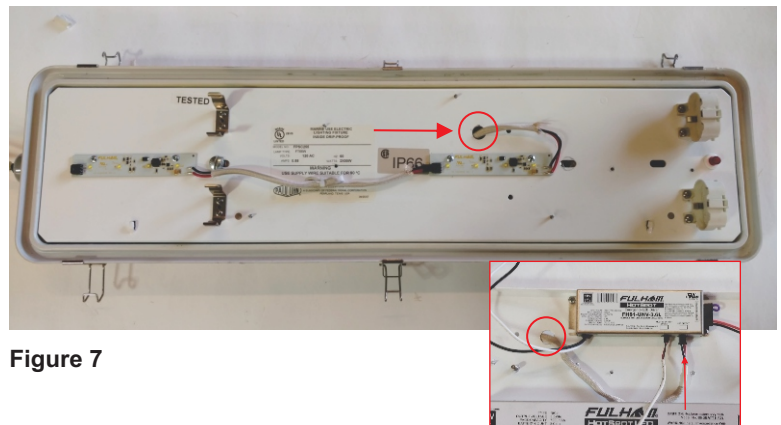

Figure 7
11. Drill a 1/2" hole into the luminaire mounting plate in the location indicated in figure 7 for the LED Module wire to be routed to the LED Driver.